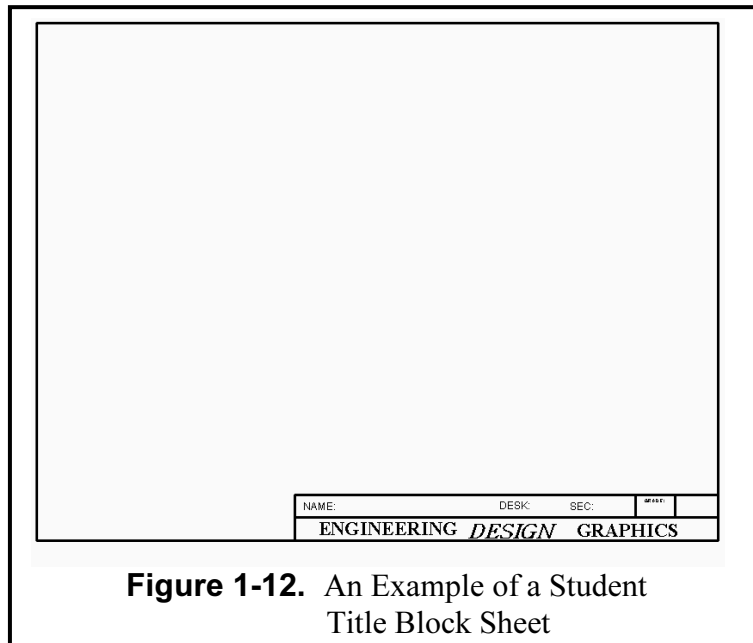

Figure 1-12. An Example of a Student Title Block Sheet
The next process is to set up a Title Block to reflect the two measurement styles. You may have to draw a title block (see **Figure 1-12**) if one has not been provided. An example of a title block, with suggested dimensions and style, is available in **Appendix A**. If a Title Block has been provided, go to **File** and **Open** that drawing file. Go to the **Tools** pull-down menu and select **Options**. Under the **Document Properties** tab make sure that the **Dimensioning Standard** is set for **ANSI**. Next select **Units** in the left hand column. In the window that appears, activate **IPS (Inch, Pound, Second)**. Three (3) decimal places will be all you should use here unless you are doing very high tolerance drawings.
- B. Open the appropriate Title Block drawing sheet (see **Figure 1-12** for example). The Title Block drawing sheet that you open should have the same units as the solid part (metric or inches).
Before you finish this exercise, you should print a hard copy for submission to your instructor. *Check with your instructor first for any special printing instructions.* You may need to use a special sheet like the Title Sheet shown in **Figure 1-12**. You can insert the rendered Metal Gasket image into your **Title Block** drawing sheet that was created in the introduction to this chapter, as shown in **Figure 1-22**. To put this object on a Title Sheet, follow the instructions on **Page 1-7**.